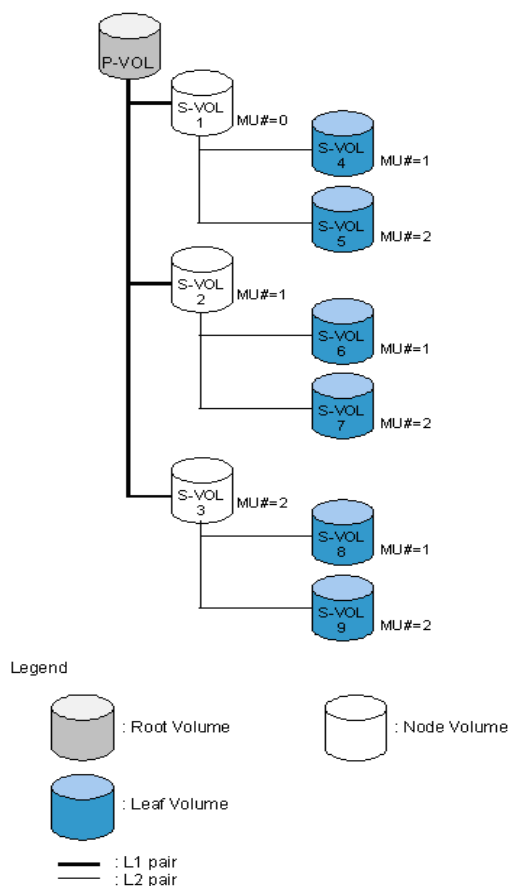

Figure 245 Cascade pairs
This function creates a second layer of volume pairs underneath the first layer of BC pair(s). Pairs created in the first and second layer are called cascaded pairs. Figure 245 illustrates cascaded BC volume pairs. The first cascade layer (L1) is the original BC pair, consisting of one P-VOL (root volume) and up to three S-VOLs (node volumes). In the second cascade layer (L2), the S-VOLs of the original BC pair function as the P-VOLs of the L2 pairs, and each L2 P-VOL can have up to two S-VOLs (leaf volumes). This layering scheme can create up to nine copies of one BC primary volume (P-VOL).
- “MU#” in Figure 245 means MU number, which identifies each MU. MU#=1 under S-VOL1 means the MU number of the P-VOL that is paired with the S-VOL1 is 1.